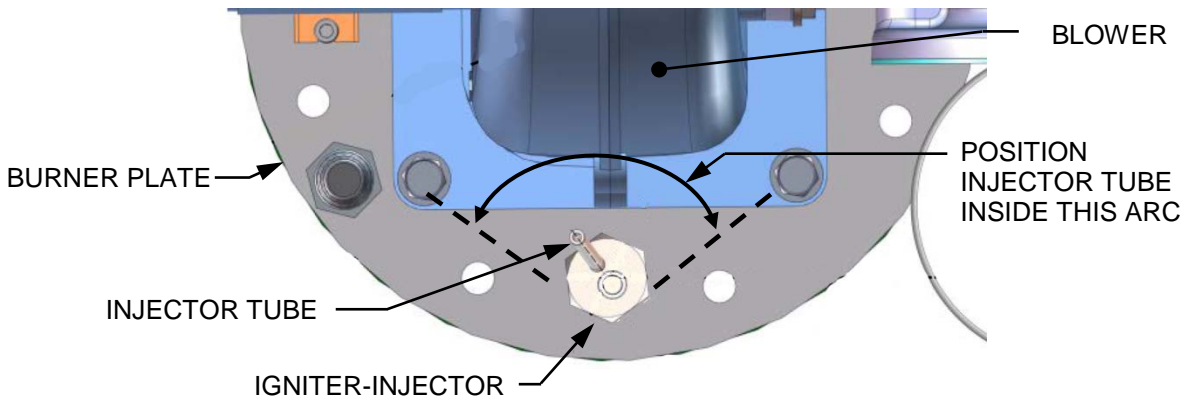

Figure 4-3a: BMK 750/1000 Igniter-Injector Orientation
8. Reinstall the igniter-injector in the burner plate using 1 to 3 indexing washers, as needed, so that when the igniter-injector is tightened, its injector tube will be positioned within the approximately 120° arc shown in Figure 4-3a through 4-3c, below. Note, the recommended injection tube positioning differs for the positioning recommended in the past.
During reassembly, apply a light coating of high-temperature, anti-seize lubricant to the threads of the igniter-injector and grounding screw. Also, ensure that the igniter-injector is properly positioned as indicated in Figure 4-3a. Torque the igniter-injector to **14 - 15 ft-lbs. (19.0 - 20.3 Nm)**.